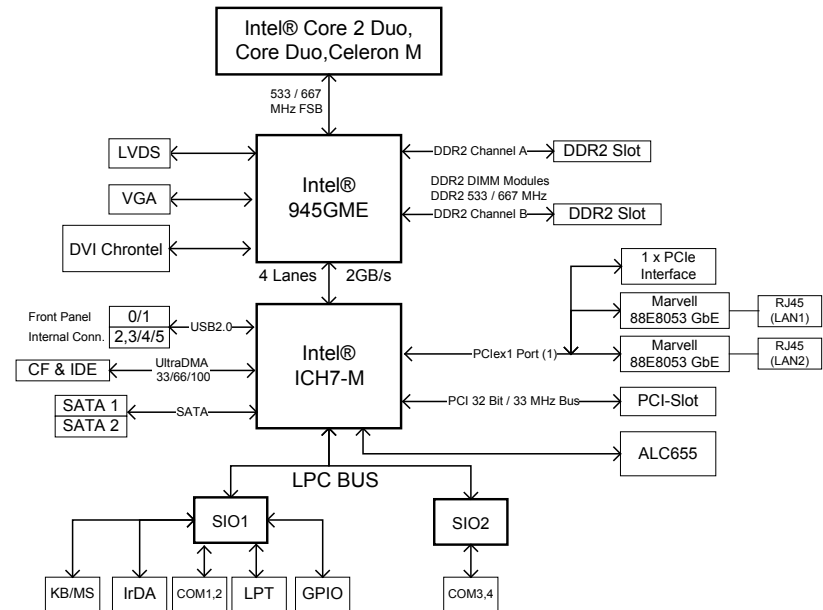

Figure 1.1 : Block Diagram of EBC 576
- Figure 1.1 : Block Diagram of EBC 576 11